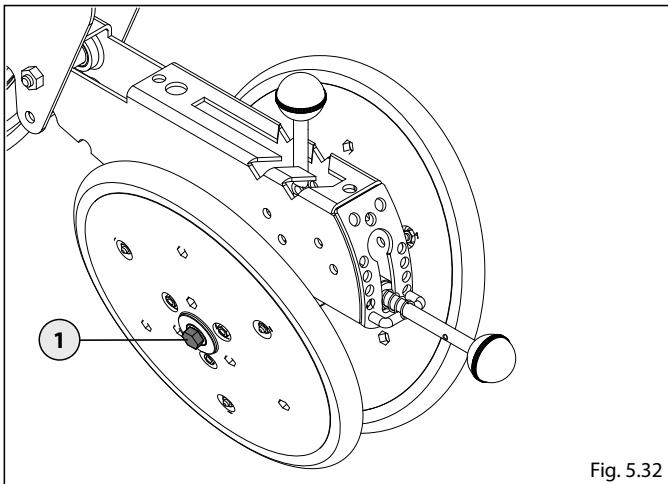

Fig. 5.32
The furrow covering wheels (Fig.5.32) must close the furrow and compress it after the seeds have been buried.
- Screw nuts **1** to reduce the distance between wheels (Fig.5.32).
- Loosen nuts **1** to increase the distance between wheels (Fig.5.32).